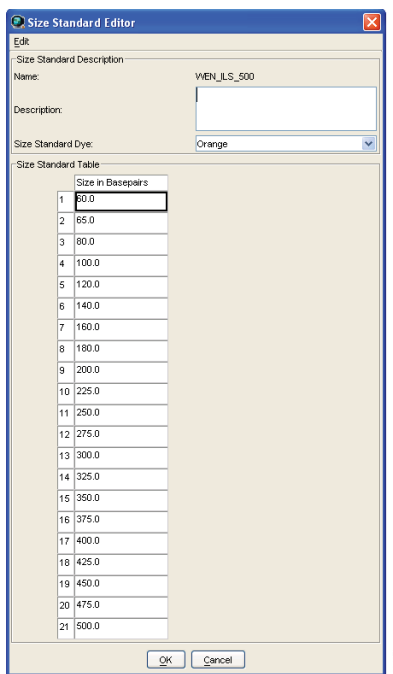

Figure 17. The GeneMapper® ID Size Standard Editor.
- Enter a detailed name, such as “WEN_ILS_500”, in the Size Standard Editor (Figure 17).